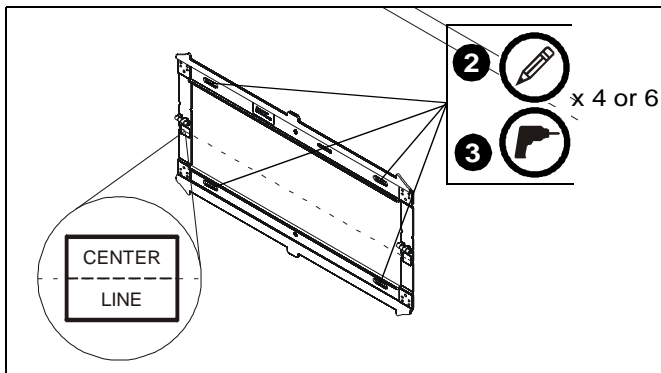

Figure 5
2. Level wall plate (A) and mark locations of pilot holes at desired mounting location. (See Figure 5)
NOTE: The vertical center of the display will be even with the center line indicated on the labels located directly below each hinge. Keep this in mind when determining mounting location. (See Figure 5)
3. Drill 5/16" (8mm) diameter pilot holes into wall at marked locations. Holes must be drilled at least 3 1/4 inches deep. (See Figure 5)